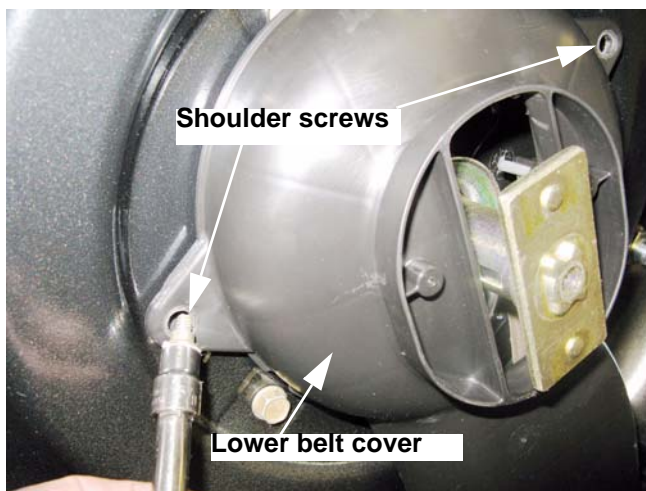

Figure 2.7
4. Remove the two shoulder screws that hold the lower belt cover to the deck. See Figure 2.7.